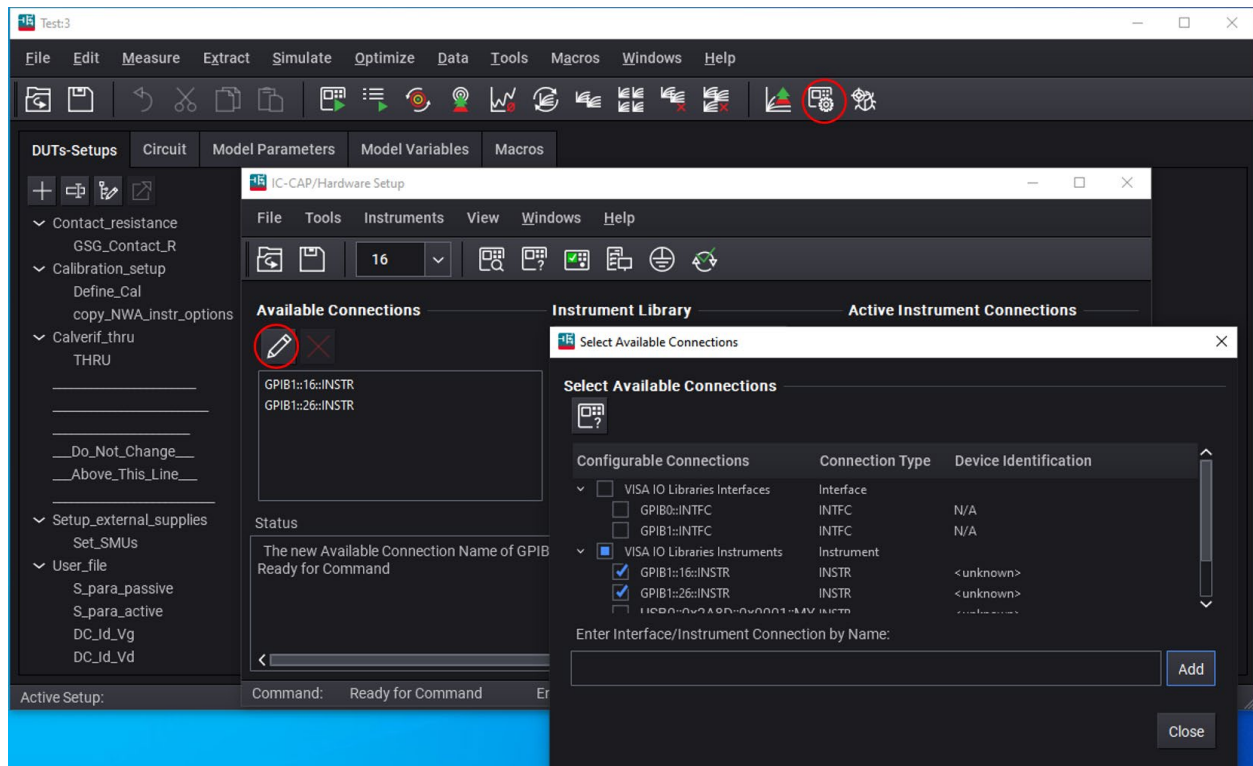

Fig. 7.2. "Test" hardware setup.
- 7.4 On the "Test" top menu, click on  to open the window for "IC-CAP/Hardware Setup" as shown in Fig. 7.2.
- what "Interface/Instrument Connection" to add. Just click on "OK" to return to Fig. 7.2 before closing it.